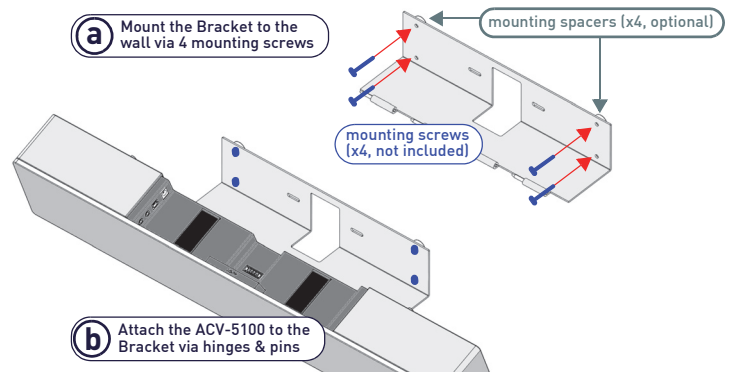

FIG. 6 WALL MOUNTING THE ACV-5100
- Mount the Bracket using mounting screws and optional mounting spacers (see FIG. 6).